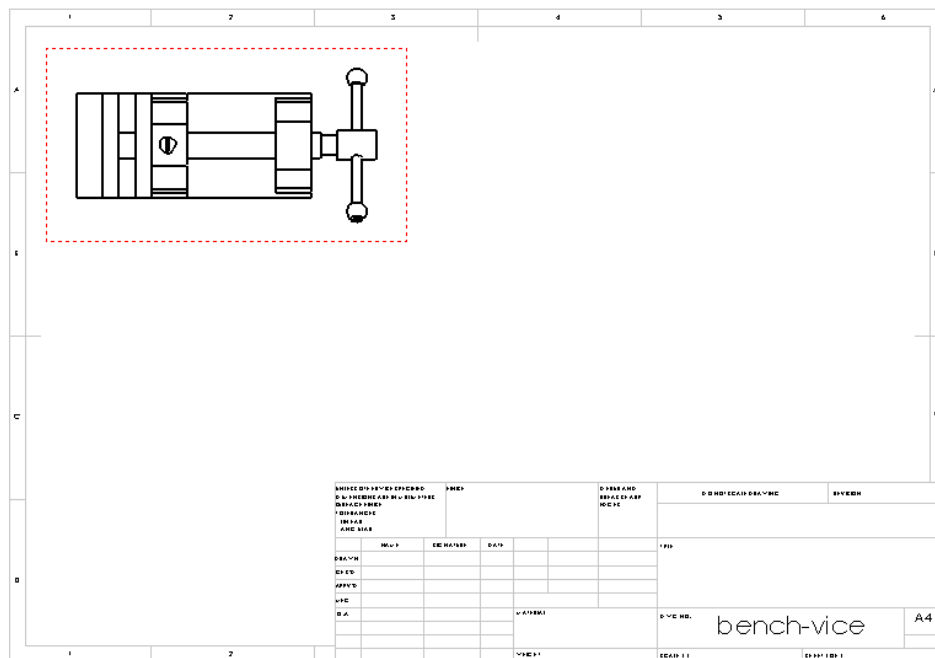

Figure 12-52 Top view generated using the **Model View** tool
- c. Start a new drawing document from within the assembly document using A4 landscape sheet format. Generate the top view using the **Model View** tool, refer to Figure 12-52.
5. Place the view close to the top left corner of the drawing sheet, refer to Figure 12-52. Click anywhere on the sheet to exit the **PropertyManager**.